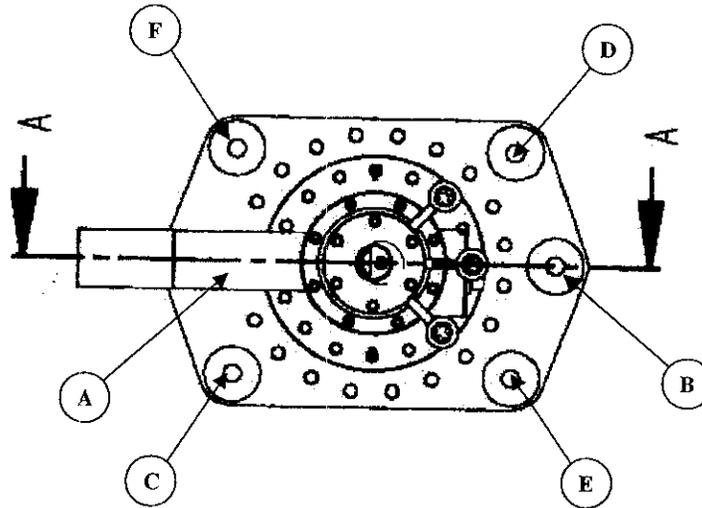

Figure 1.32.2 The specified sequence for tightening the Belleville washer assemblies.
1.32.4 Using the sequence A through F in Figure 1.32.2, sequentially tighten the loading nuts ¼ turn until the total compression is 1.8 mm at each of the six locations. As each loading nut is tightened ¼ turn, check off the appropriate line.